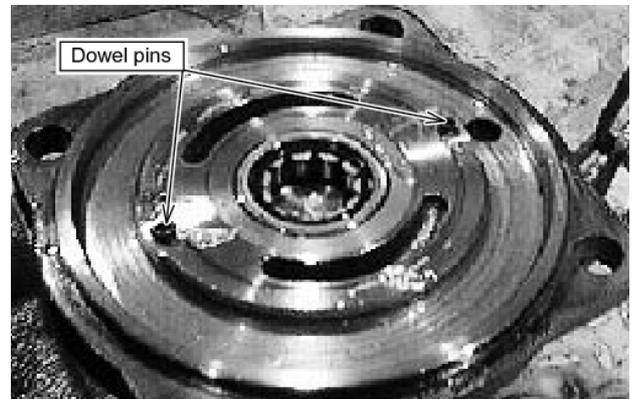

Fig. 8-17
12. Carefully place the top plate over the swing motor and align the dowel pins of the top plate with the holes in the distributor plate. See Fig. 8-17.